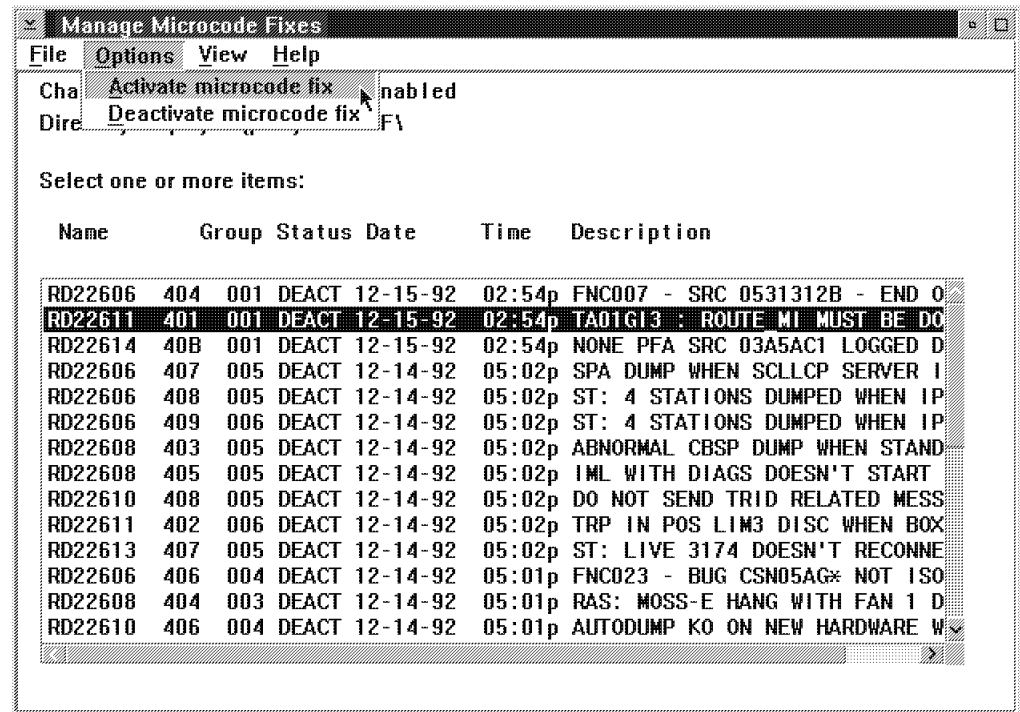

Figure 3-13. Manage Microcode Fixes
13. ____ Click on the lines of the MCFs to be applied (see example in the Figure 3-13 on page 3-13)
7. ____ Click on the lines of the MCFs to be removed (see Figure 3-13 on page 3-13)